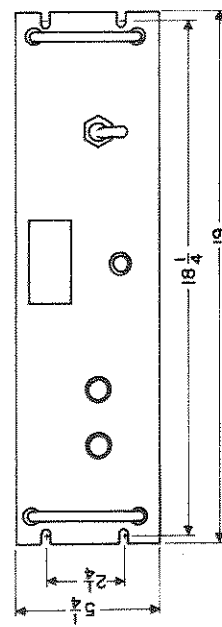

Figure 2-2. Outline Dimensional Drawing, LMC-10
a. Install the LMC-10 in a standard 19-inch relay rack or other housing as desired. The equipment may be mounted by its panels, and requires no additional support. Figure 2-2 is an outline dimensional drawing of the LMC-10.